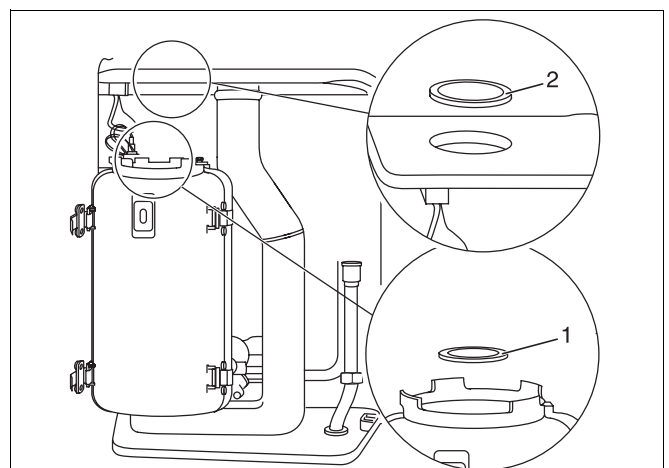
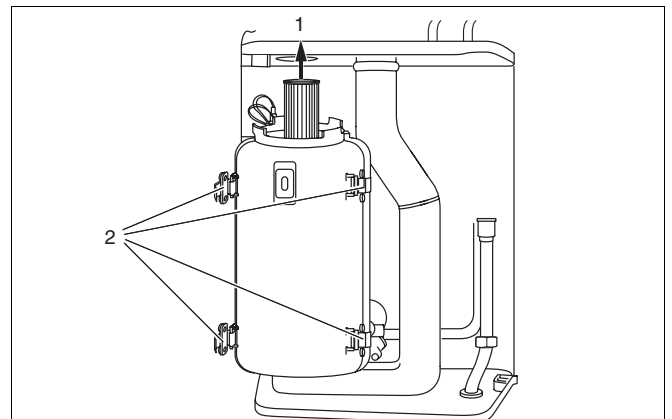

Fig. 29 Remove burner gasket and rubber seal
Fig. 33 Remove burner and release retaining clips
- Remove burner gasket (fig. 29, item 1).
- Remove rubber seal in heat exchanger by pushing upwards from inside (fig. 29, item 2).
- Remove rubber seal in combustion chamber from top (fig. 29, item 2, page 27).
- Remove burner and burner gasket (fig. 29, item 1, page 27) by pulling upwards through the opening (fig. 33, item 1).
- Remove the front of the heat exchanger by releasing the four retaining clips (fig. 33, item 2).